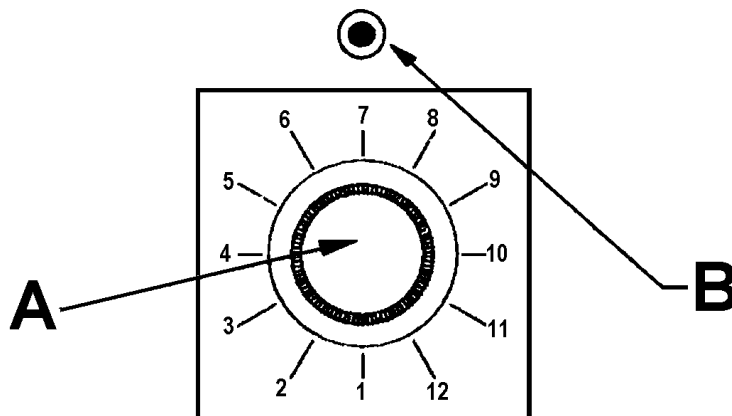

Figure 6
2. Turn knob on rear of machine all the way counterclockwise (A, Fig. 6). Now turn 1 click at a time clockwise until the LED (B, Fig. 6) comes on.
2. THREAD LABELS FOLLOWING THE DIAGRAM (FIGURE 6, OR 6A) IN THE INSTRUCTION BOOK.